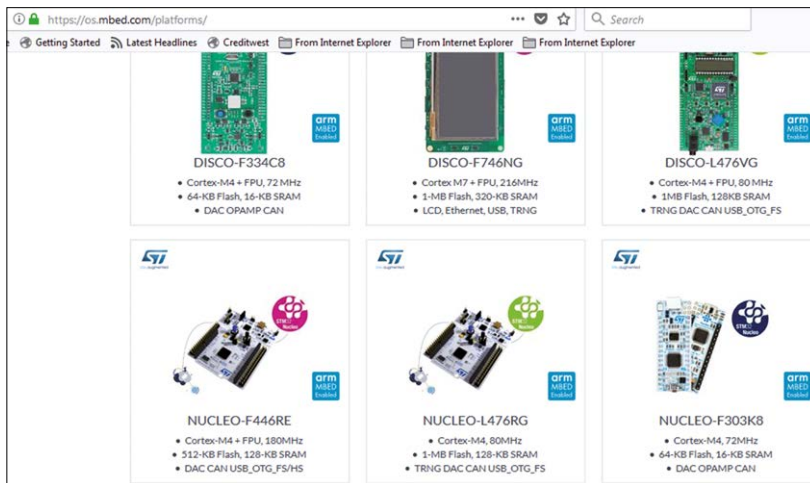

Figure 3.6: Click on picture Nucleo-L476RG.
- Click **Hardware** → **Boards** and then click on picture Nucleo-L476RG (see Figure 3.6).